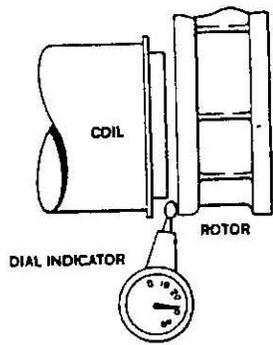

Figure 3
**Step 2** Dial Pointer to "0" on dial after stylus is place against rotor's inside face as shown in Figure 3.